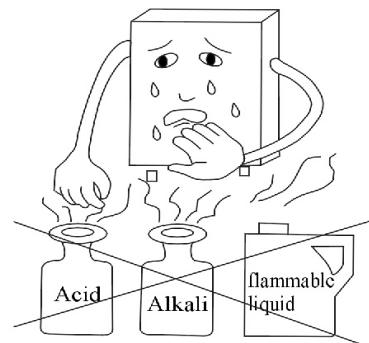

Fig.18
- Do not store inflammables, explosives or volatiles near the water heater. (Fig. 18)